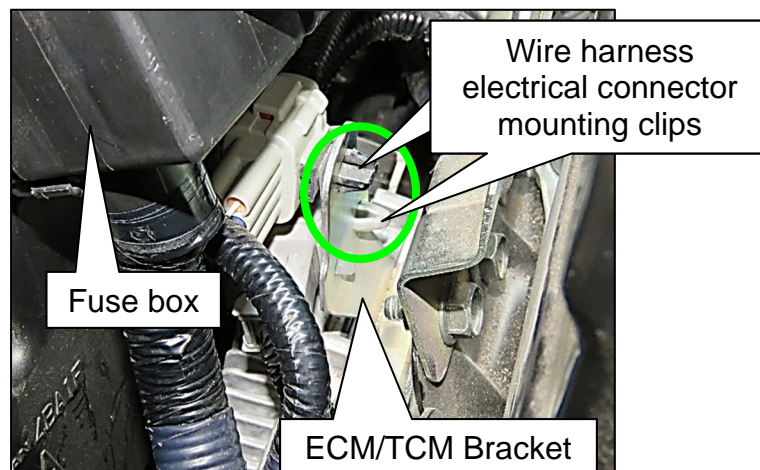

Figure 8
6. Move the fuse box toward the front of the vehicle, as shown in Figure 8, to disengage both wire harness electrical connector mounting clips from the ECM/TCM bracket.